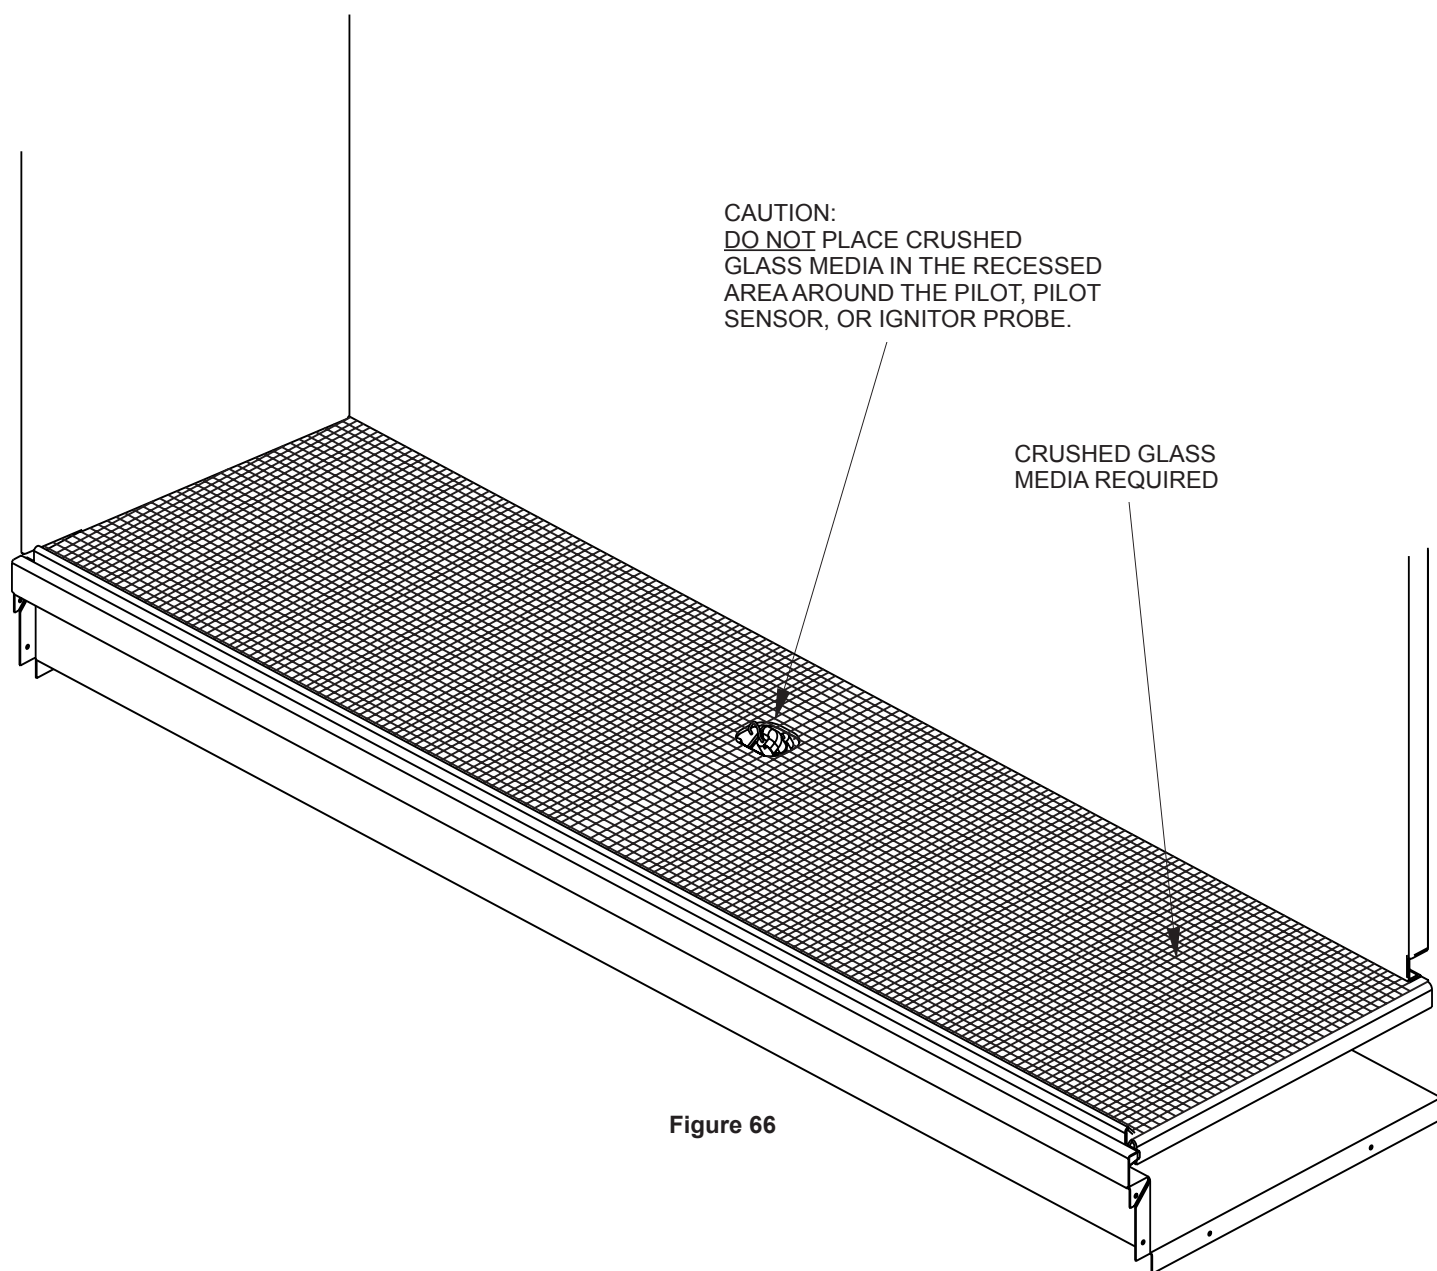

Figure 66
2. Place crushed glass media over the burner screen in a single layer. Use **ONLY** enough crushed glass media to mask the burner screen. **See Figure 66.**